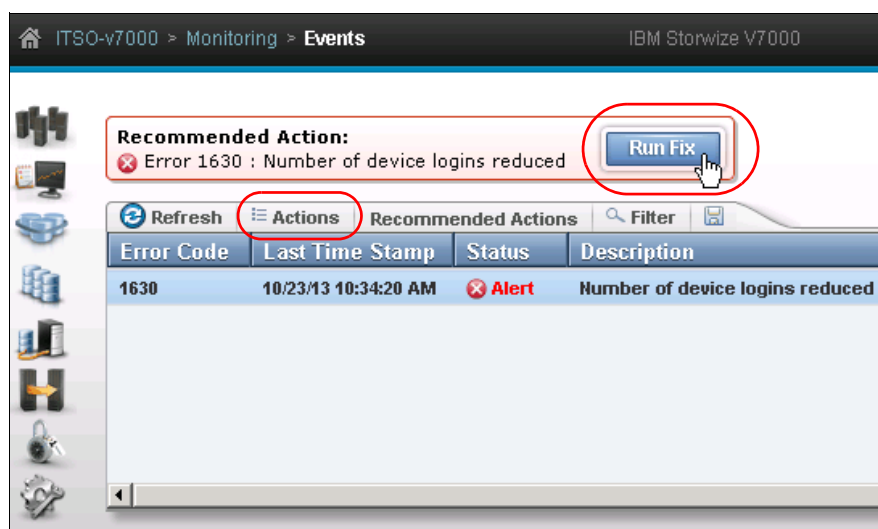

Figure 13-24 Initiate Run Fix Procedure from management GUI
1. From the dynamic menu (the icons on the left) select **Monitoring** → **Events**, and then focus on the errors with the highest priority first. List only the recommended actions by selecting the filters in the **Actions** menu (Figure 13-24). Click **Run Fix**.